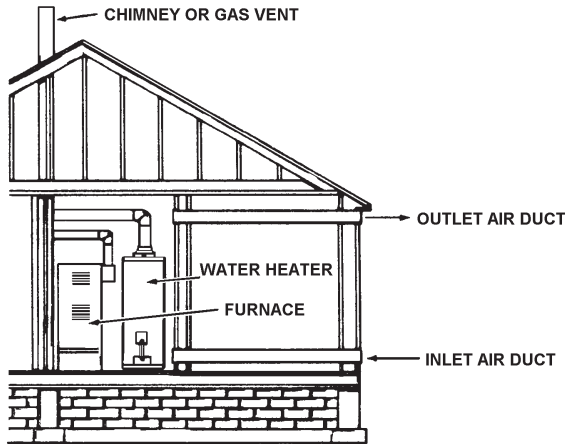

FIGURE 14A.
- When communicating with the outdoors through horizontal ducts, each opening should have a minimum free area of 1 square inch per 2,000 BTU per hour (11 cm²/kW) of total input rating of all equipment in the enclosure, see Figure 14A.
- When ducts are used, they should be of the same cross-sectional area as the free area of the openings to which they connect. The minimum short side dimension of rectangular air ducts should not be less than 3 inches (76.2 mm), see Figure 14A.